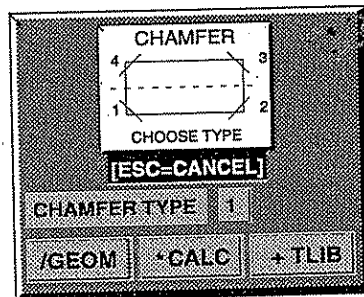

Figure 3-8
- 10) Press **[5] CHAMF**. A screen as shown in Figure 3-8 will appear.